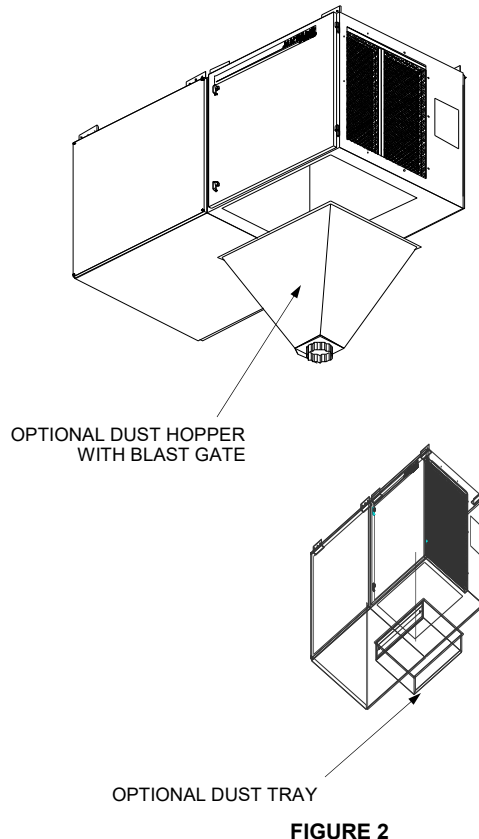

FIGURE 2
4. Once the unit is hung properly, the dust collection device (Dust Hopper or Dust Tray Assembly) may be installed. Assemble to the bottom of the MC 3000 Filter Module as shown in **Figure 2** (#8 X ½" sheet metal screws are provided for assembly).